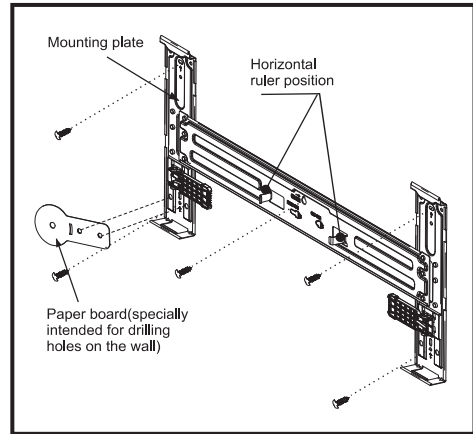

Fig. 1
- 6) Align the 2 holes of the paper board with the 2 holes of the mounting plate as show in Fig. 1.
- 1) Decide the position of hole for piping according to the location of mounting plate (see the position and size of the paper board as shown in Fig. 1).
Note: If you have a hole on the wall, you need to align the round part of the paper board with the hole on the wall. Then align the 2 holes of the mounting plate with the 2 holes of the paper board (shown in fig. 1) to decide the installing location for the mounting plate.